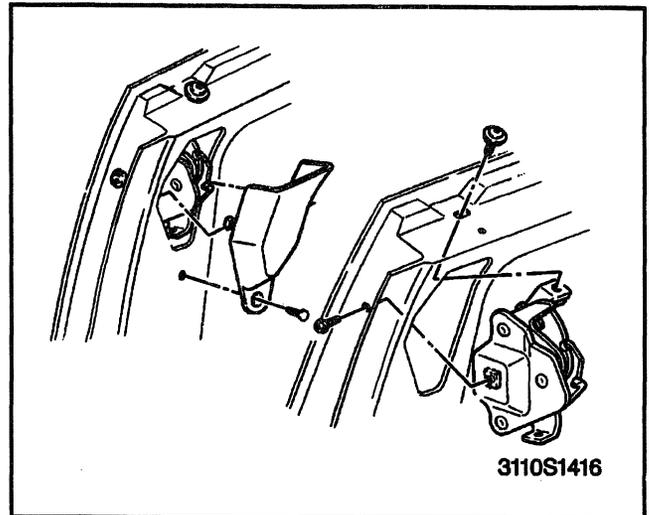

Figure 98—Upper Latch and Bumper
6. Latch bolts (Figure 98).
7. Latch from door (Figure 98).
1. Latch to door (Figure 98).
2. Latch bolts (Figure 98).